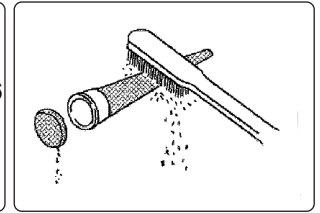

fig.21
7.5.3. Clean the carbon deposits on the muffler screen and spark arrester using a wire brush fig.21. When cleaning use the wire brush gently to avoid damaging or scratching of the muffler screen and spark arrester.